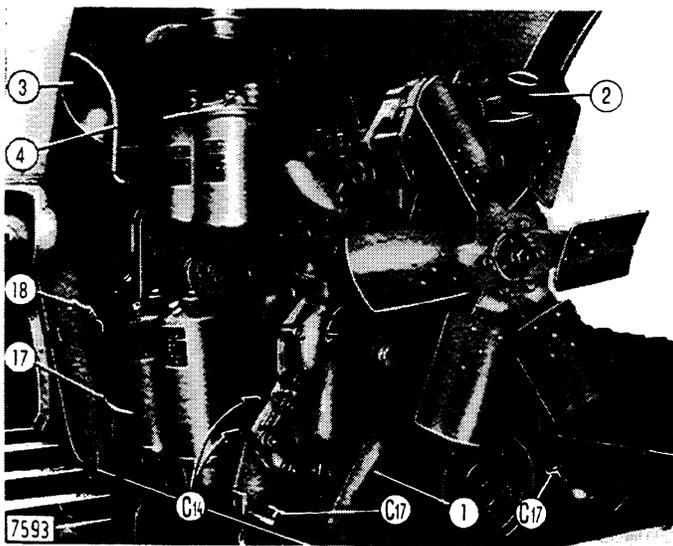

Fig. 5 - Right-hand Side View of the Engine in Position on the Machine
- 6 Disconnect the electrical cables, the piping, and the linkage to the instrumentation on the dashboard, fuel tank and to the accelerator control (see Figs. 5 and 6).